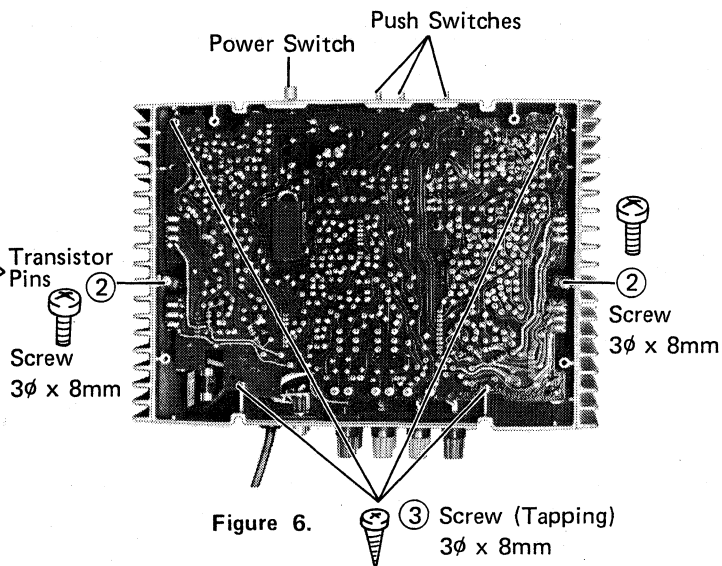

Figure 6.
4. Remove 2 screws ② securing Diodes at both sides. See figure 6.
5. Remove 4 screws ③ securing P.C. board and slide the P.C. Board backward. See figure 6.